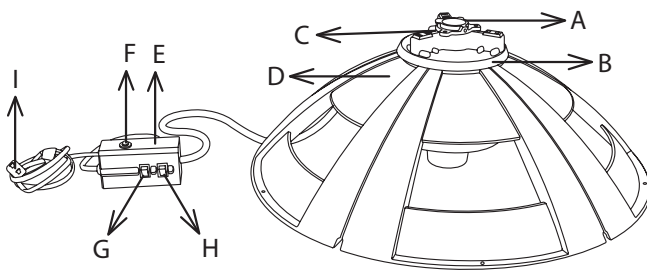

Figure 1
1. Remove the tree stand from the box and familiarize yourself with the unit (Fig. 1).